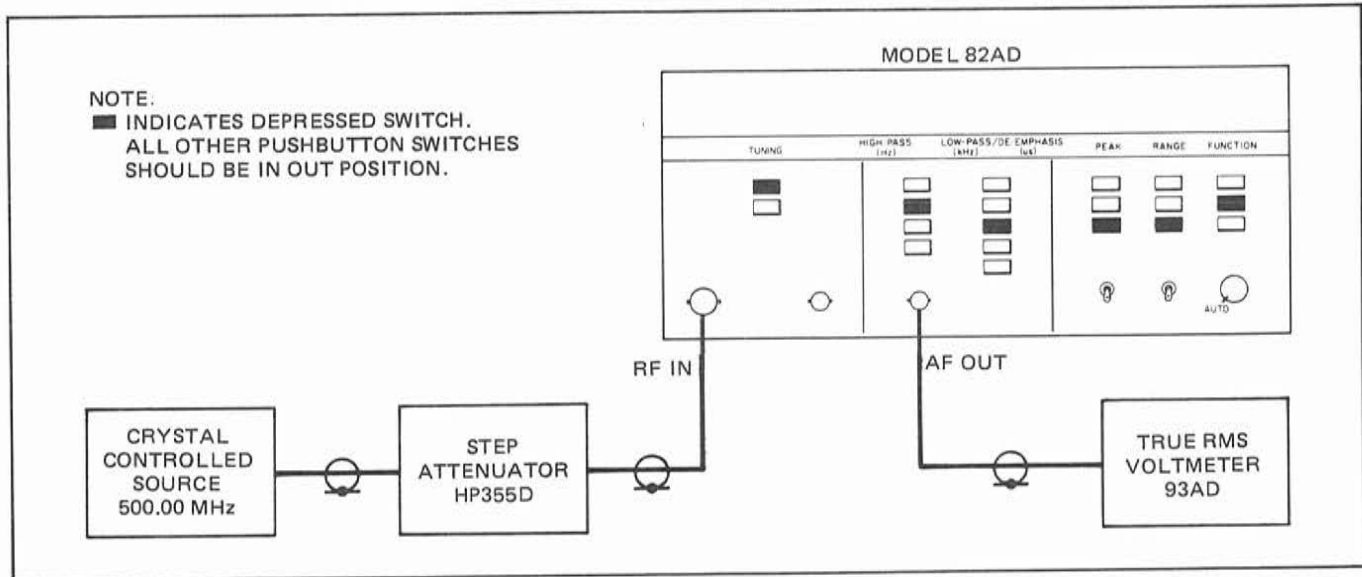

Figure 2-15 Residual AM Check, Test Setup
a. Connect the Model 82AD and test equipment as shown in Figure 2-15.
b. Set the Model 82AD LEVEL control to the AUTO position, and depress the switches indicated in Figure 2-15.